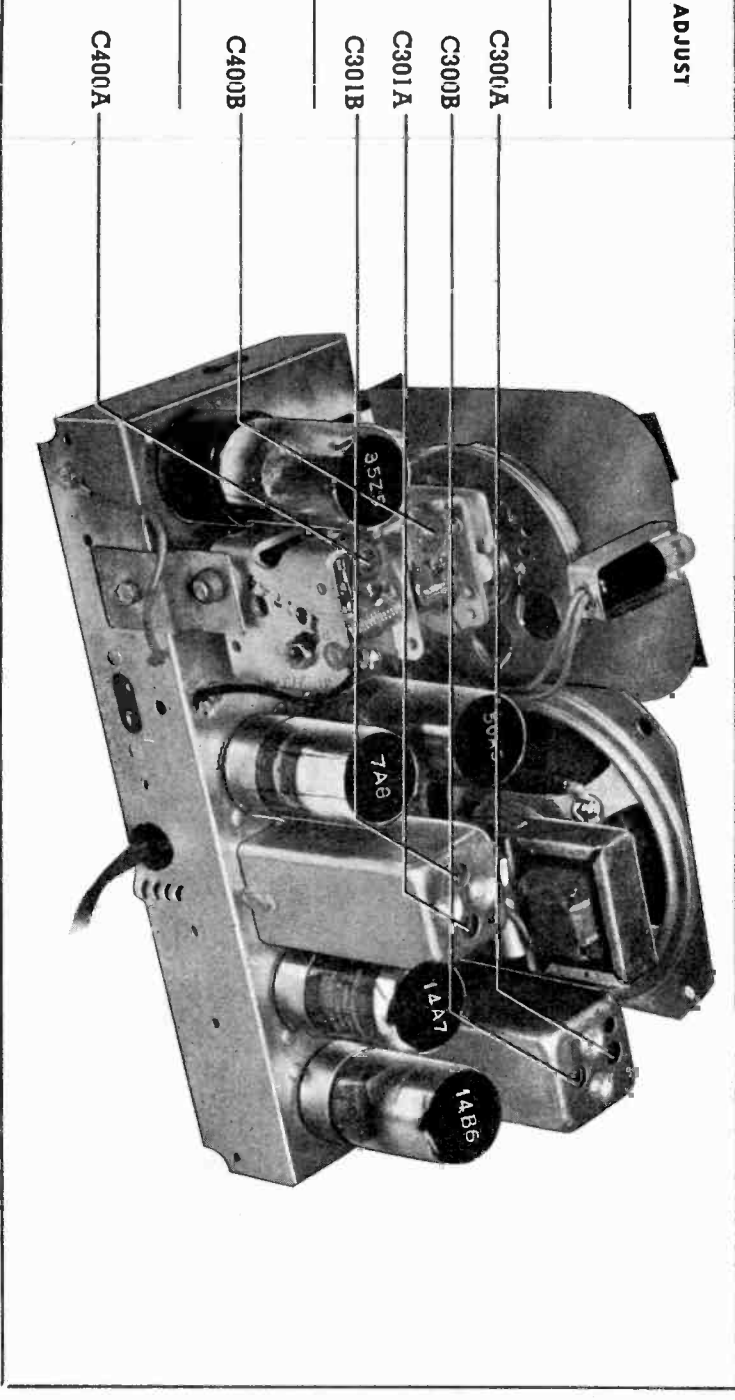

FIGURE 6. TOP VIEW, SHOWING TRIMMER LOCATIONS
- Carefully inspect both top and bottom of the chassis. Make sure that all tubes are secure in the proper sockets (see figure 6), and look for bad connections, burned resistors, or other obvious sources of trouble.
OUTPUT METER—Connect to left (output) lug and center (chassis) lug of terminal panel, shown in figure 6.